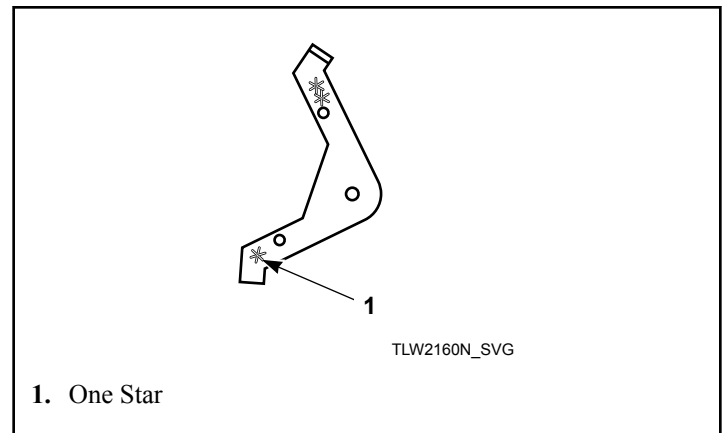

Figure 17
2. Install extension lever with arm that has one star facing down. Refer to *Figure 17*.